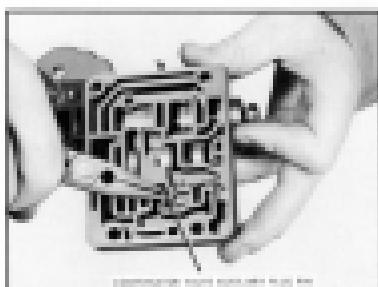

Fig. 496. Removing Auxiliary Plug Pin
16. Remove pin holding compensator valve auxiliary plug in place. (Fig. 496)